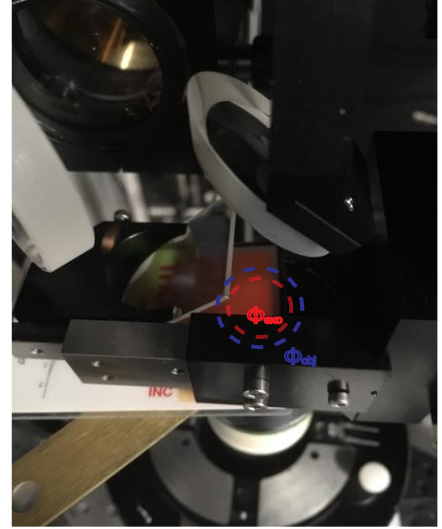

Figure 3
6. Check objective's back aperture (O_{BA}) filling factor (Φ_{exc}/Φ_{obj}). To do so, turn on a regular scan mode at "high zoom" (i.e. with minimal movement of scan mirrors) without the objective in place. Use a laser viewing card in the position where the objective's back aperture would be to assess the setup's fill factor (i.e. the size of the laser spot relative to the objective's back aperture). (Fig. 3). Alternatively, if your laser supports an alignment mode at a visible wavelength (typically low 700s of nm) you can also do this procedure with a piece of paper in place of the laser viewing card.